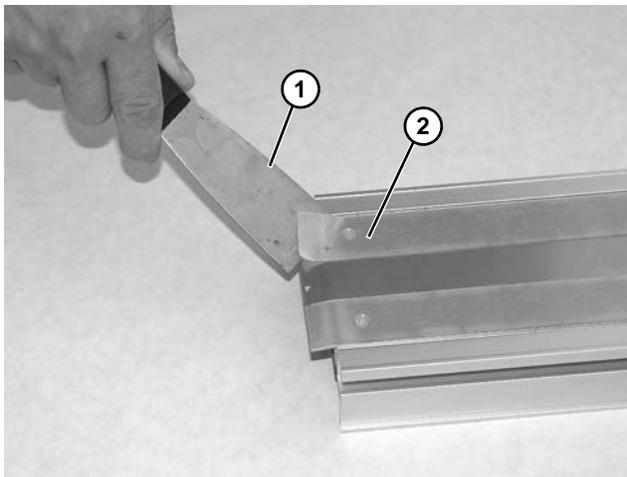

Figure 54
2. With a putty knife (Figure 54, item 1), start by raising edge of wear strip (Figure 54, item 2).